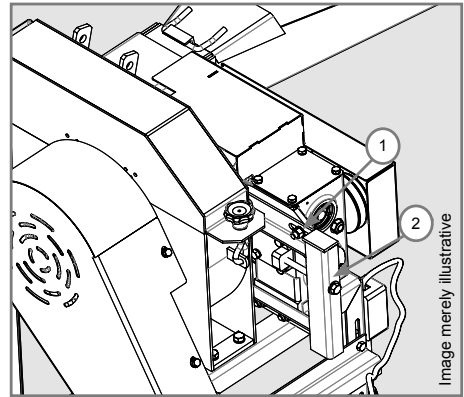

Figure 6
5. After mounting the belt in the pulley groove according to the desired cutting size, retighten the screw (2) so as to tension the belt (fig. 6).
6. With the belt currently tensioned, retighten the nuts (1) which secure the gearbox (fig. 6).